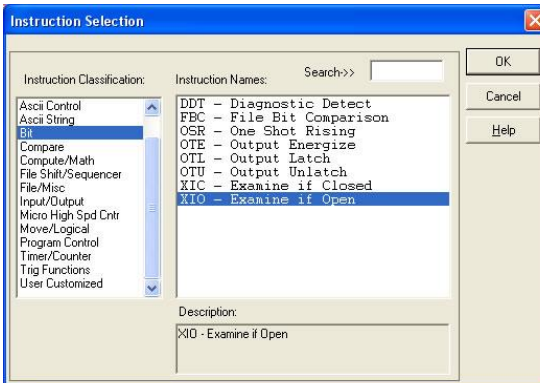

Figure 63: XIO Instruction Selection
- b) Select the “XIO” instruction from the “Bit” classification, then click OK. Refer to Figure 63.